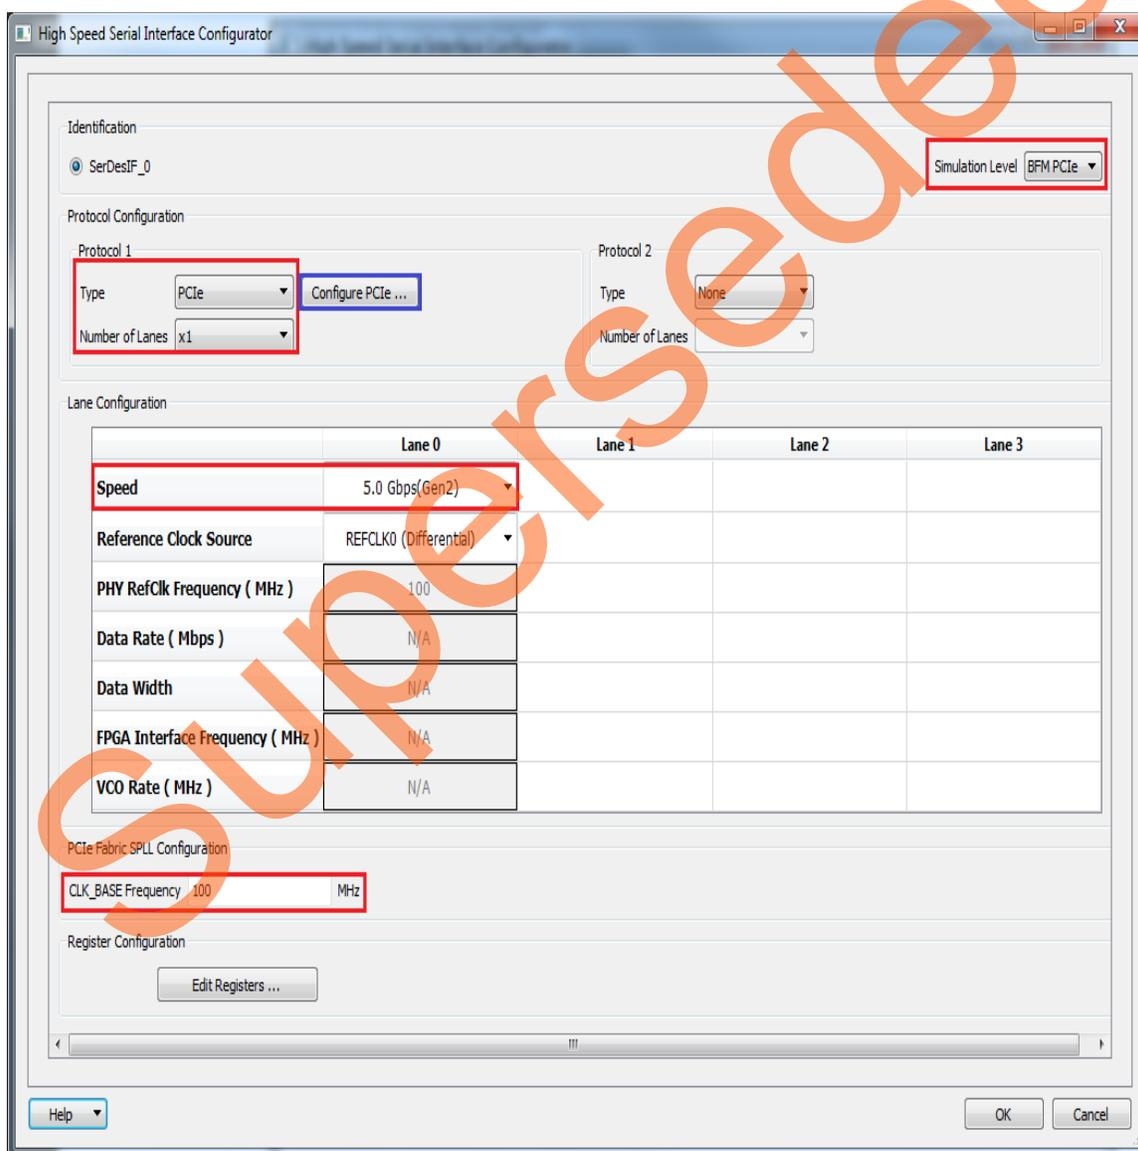

Figure 12 • High Speed Serial Interface Configurator Window
2. Double-click the **SERDES_IF_0** component in the SmartDesign canvas to open the **SERDES** configurator. Configure the SERDES with the following settings as shown in Figure 12: